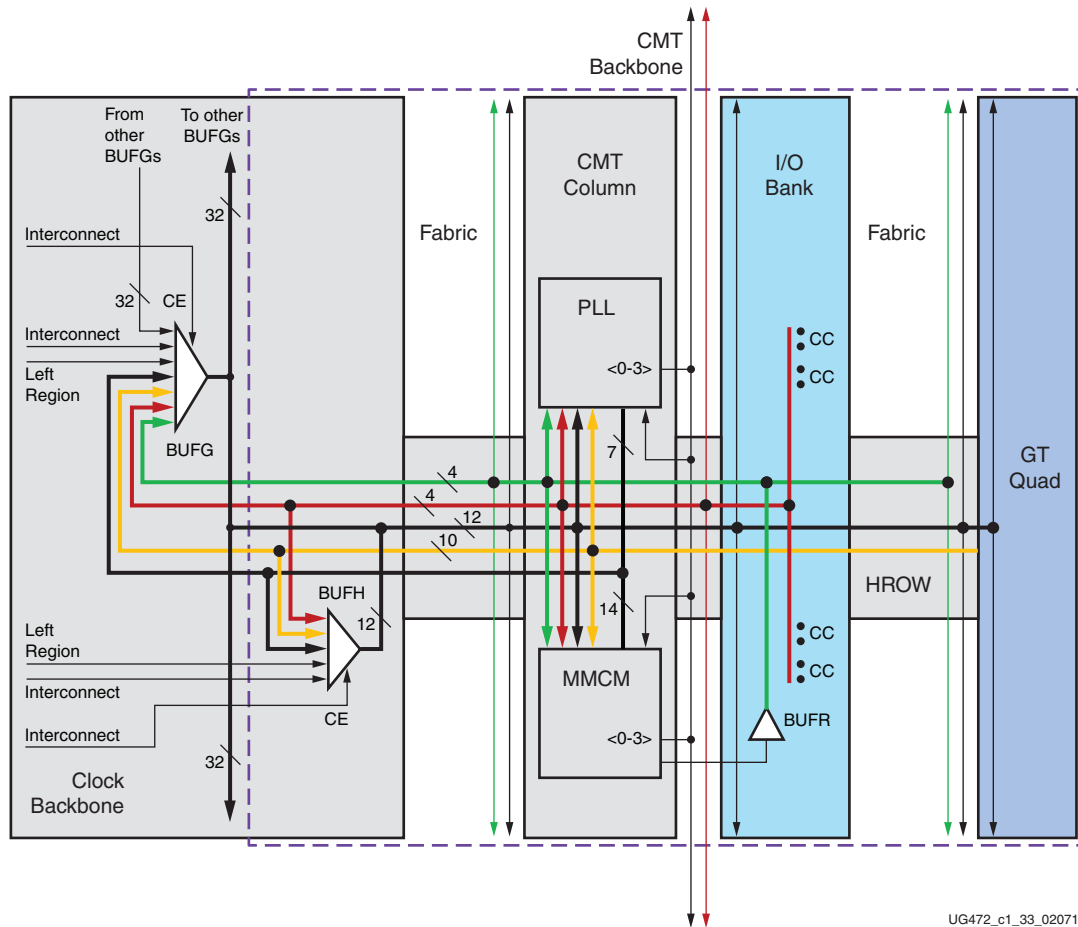

Figure 1-4: BUFG/BUFH/CMT Clock Region Detail
Figure 1-4 shows a more detailed diagram of the global BUFG and regional BUFH/CMT/CC pin connectivity as well as the number of resources available in a region (a right side region is shown here).
Any of the four clock-capable input pins can drive the PLL/MMCM in the CMT and the BUFH. The BUFG is shown as present in the region, but can be located physically somewhere else in the clock backbone. BUFG and BUFH share 12 routing tracks in the HROW and can drive all clocking points in the region. BUFGs can also drive BUFHs (not shown in Figure 1-4). This allows for individual clock enables (CE) on an otherwise global clock distribution. A GT quad has ten dedicated tracks to drive the CMT and clock buffers in the clock backbone. The BUFRs located in the I/O bank have four tracks driving clocking points in the fabric, CMT, and BUFG. CMTs can, with limitations, drive other CMTs in the adjacent regions via the CMT backbone. Similarly, clock-capable pins can drive, with the same limitations, CMTs in adjacent regions. Clock-capable pins can drive BUFGs anywhere in the same top/bottom side of the device. There are four tracks in the CMT backbone to support connectivity between vertical regions.